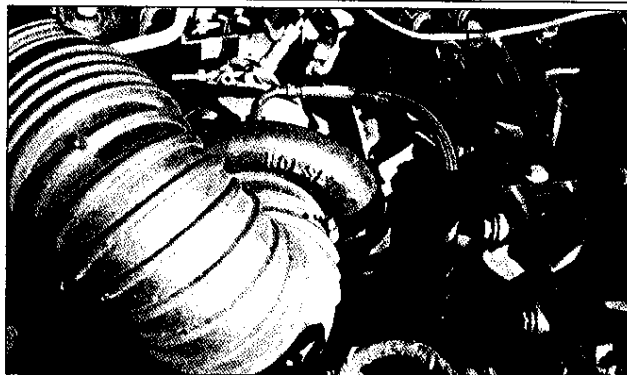

Fig. 1
- a. Use a screwdriver to loosen the clamp and disconnect the large plastic duct that connects the air filter box to the turbocharger at the turbocharger end (Fig. 1).